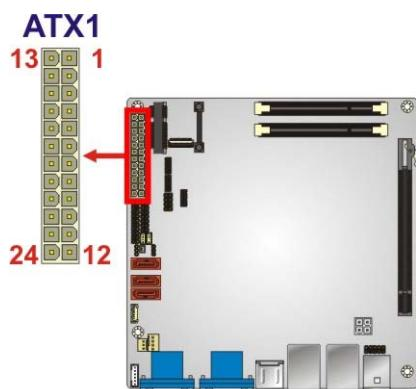

Figure 3-3: ATX Power Supply Connector Location
**CN Location:** See Figure 3-3